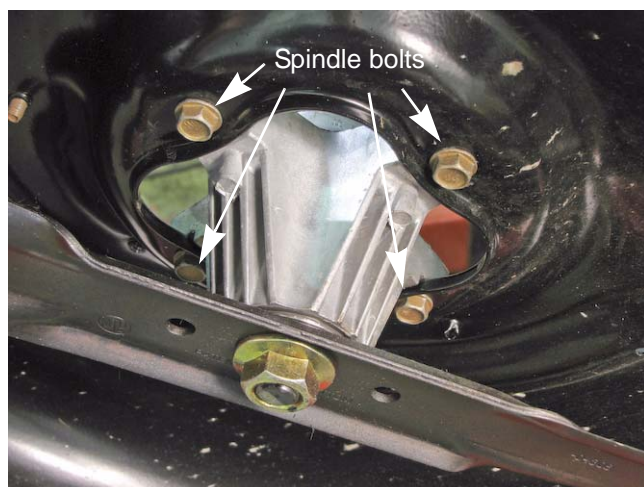

Figure 8.25
5. Remove the four bolts fastening the spindle to the deck. See Figure 8.25.